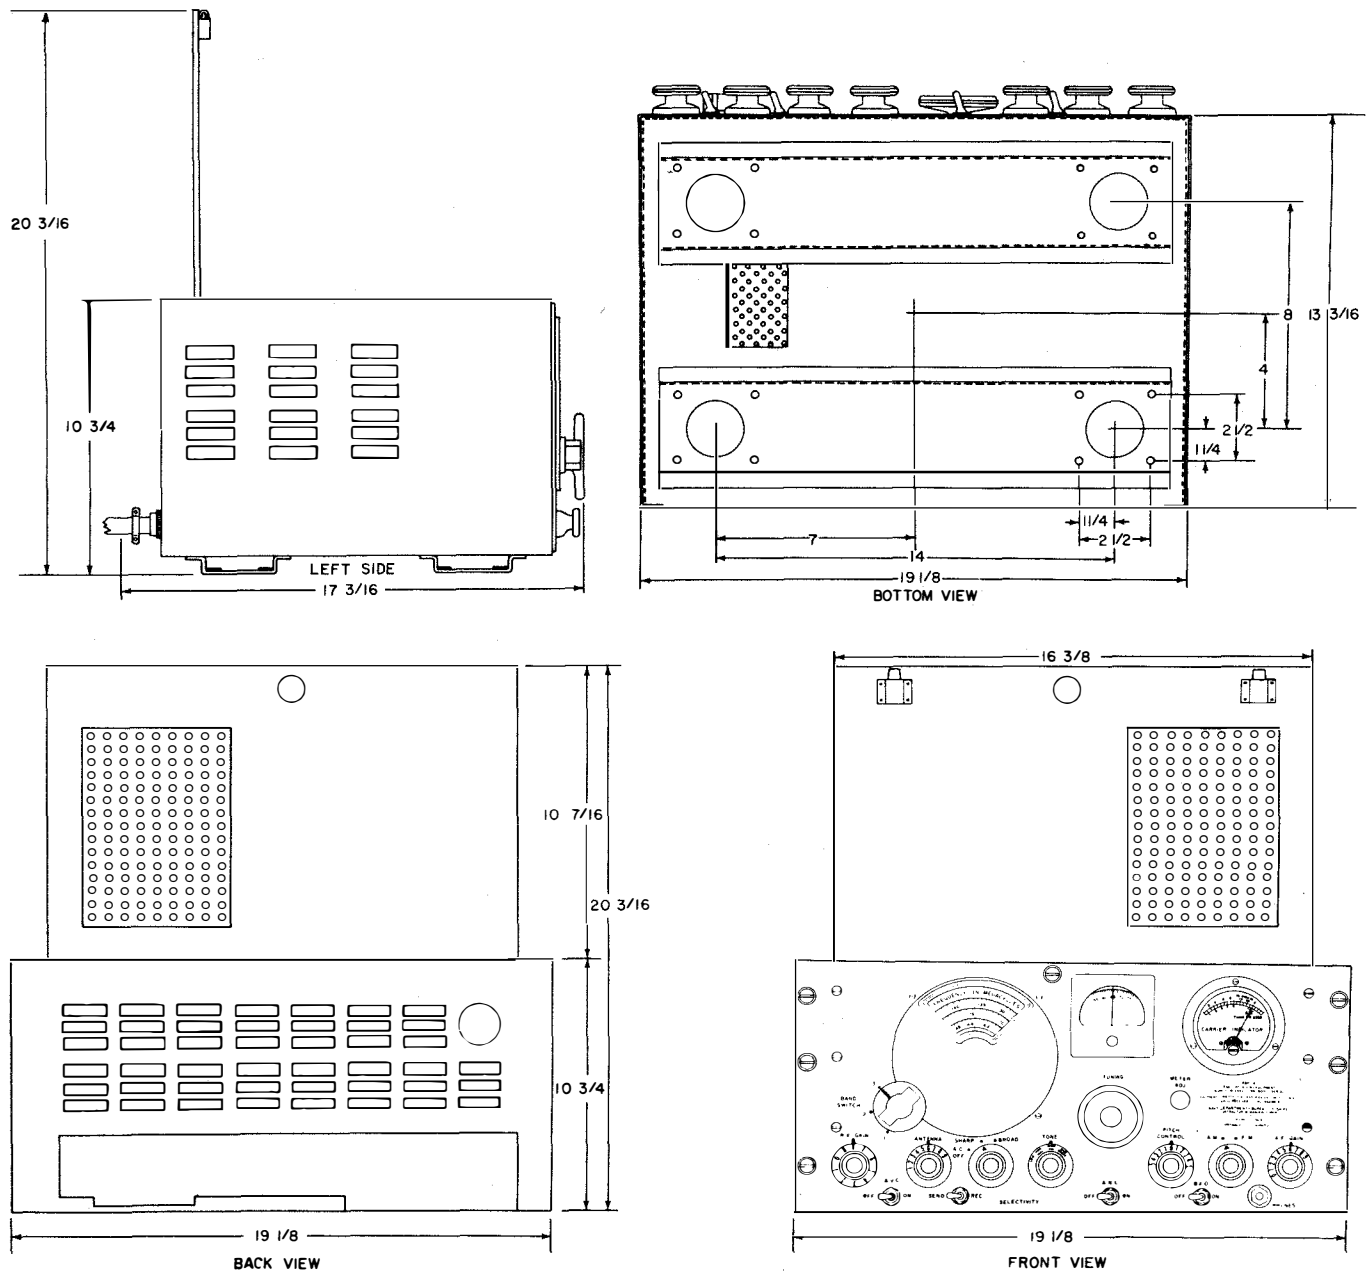

Figure 3-2. Radio Receiving Equipment Navy Model RBK-16, Dimensional Drawing Having Three Views.
a. The receiver should be located to provide for easy access to the front and rear panels, and with enough clearance above so that the top door on the cabinet may be opened. See figure 3-2.